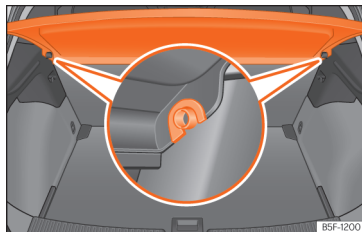

Fig. 174 In the boot: removing and installing the shelf.
- Remove the rear shelf from the side supports >>> Fig. 174 by pulling it upwards and then take it out.
- Insert the cover horizontally so that the “recess” fits onto the axis of the supports >>> Fig. 174 and press down until it engages.